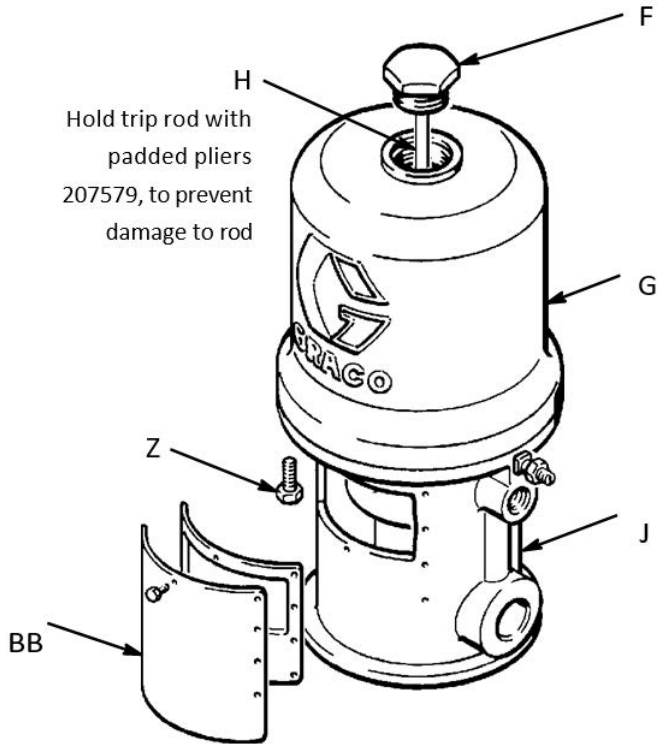

FIG. 3: Move the Piston Assembly
3. Manually push up on the piston rod to move the piston assembly to the top of its stroke. Unscrew the cylinder cap nut (F) from the cylinder (G). Pull up
on the cap nut. Grip the trip rod (H) with padded pliers 207579 and screw the cap nut off the trip rod. See FIG. 3.
4. Remove the eight screws (Z) holding the cylinder (G) to the base (J). Carefully pull the cylinder straight up off the piston. See FIG. 3.